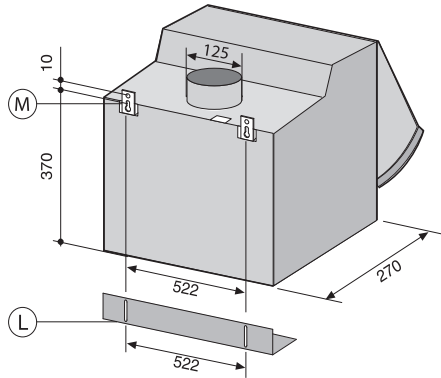

Fig. 2
- Drill 6 holes on the wall as shown in (fig. 2). Fix the spacer (L) on the wall at the right height, according to the depth of the hanging cupboards (fig. 2).
- Adjust the position of the upper clamps (M) (fig. 2), according to the depth of the side hanging cupboards.